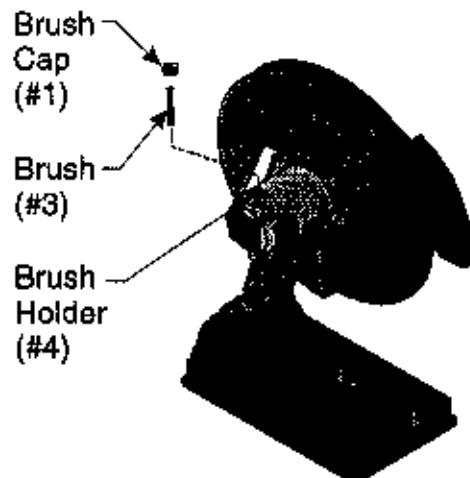

Figure 5 -- Replacing Brush
- Step 1: Remove the BRUSH CAPS (#1) as shown in Figure 5.